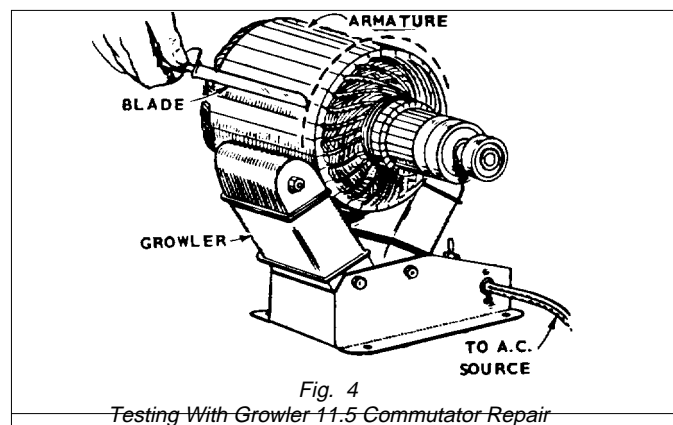

Fig. 4
- (1) Using a test lamp or ohmmeter, check the ac winding for an open circuit between the slip rings. If an open circuit is found, replace the armature.
- (2) Test both the slip rings and commutator for grounding to the shaft.
- (3) To test the armature for an open circuit in the dc windings, check continuity between all adjacent bars of the commutator. Open circuit problems can be seen because they cause bar burring, arcing and poor cranking. Touch the probes to two adjacent bars and check for continuity. Move each probe over one bar and check again. Continue around the commutator. Any adjacent bars that don't show continuity indicate an open armature winding.
- (4) This test can only be performed with the generator disassembled and requires a growler. To test for shorts in the dc winding, place the armature in the growler. Operate the growler and pass a steel strip back and forth over and above the armature windings (Fig. 4). If the strip is magnetically attracted to the armature at any point, a short is indicated. After testing in one position, rotate the armature slight-